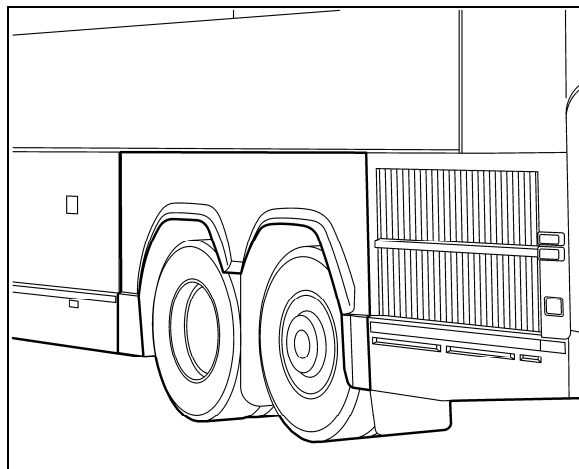

FIGURE 12: L.H. SIDE REAR FENDER
5. Remove L.H. side rear fender (Fig. 12).